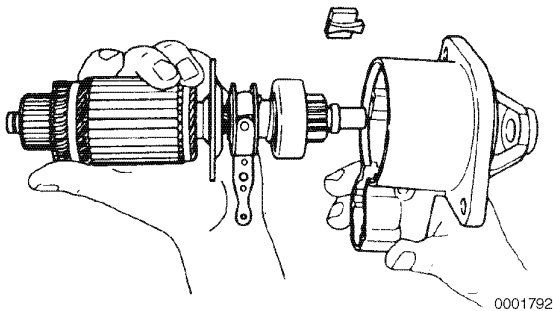

Figure 10-32
5. Install the armature and pinion assembly into the pinion housing (**Figure 10-32**).